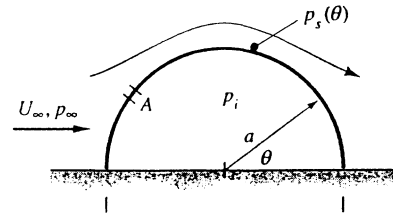

Fig. P8.48
**8.48** Wind at  $U_\infty$  and  $p_\infty$  flows past a Quonset hut which is a half-cylinder of radius  $a$  and length  $L$  (Fig. P8.48). The internal pressure is  $p_i$ . Using inviscid theory, derive an expression for the upward force on the hut due to the difference between  $p_i$  and  $p_s$ .
**8.49** In strong winds, the force in Prob. 8.48 above can be quite large. Suppose that a hole is introduced in the hut roof at point A (see Fig. P8.48) to make  $p_i$  equal to the surface pressure  $p_A$ . At what angle  $\theta$  should hole A be placed to make the net force zero?